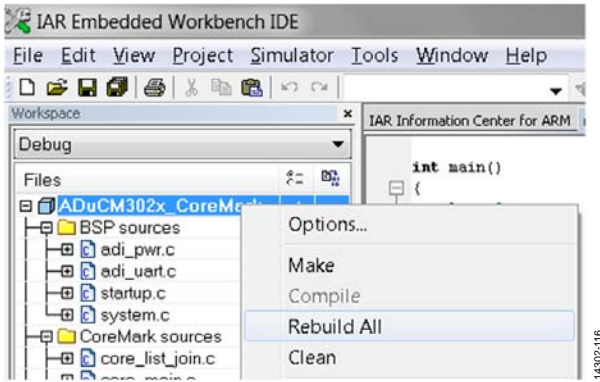

Figure 16. Building the Project
- Right-click the project name and click **Rebuild All**, as shown in Figure 16. The user is prompted to save the workspace in a .eww extension. The project must build without any errors.